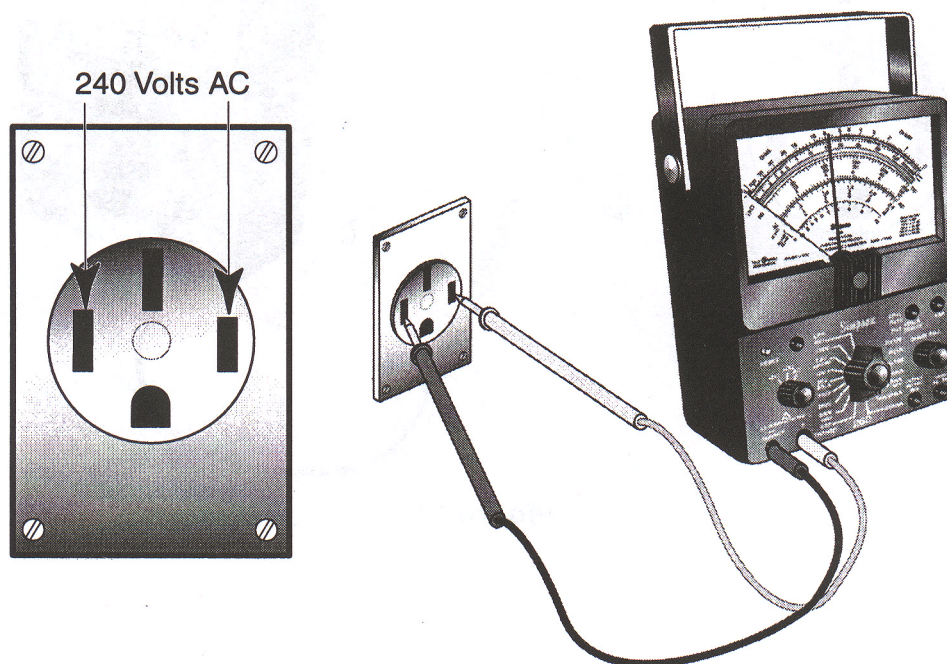

Figure 23
6. Touch the meter probe tips to the indicated outlet openings (see Figure 23). The meter should measure approximately 240 volts AC.